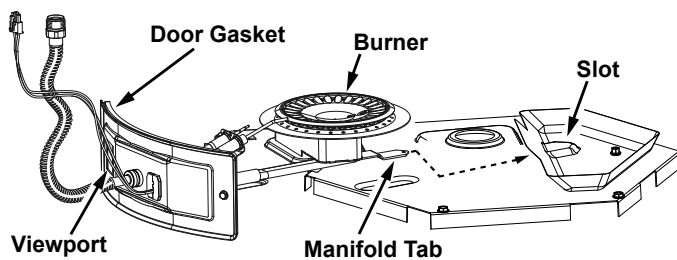

FIGURE 29.
3. Insert the manifold/burner assembly into the burner compartment making sure that the tip of the manifold tube engages in the slot of the bracket inside the combustion chamber (Figure 29).